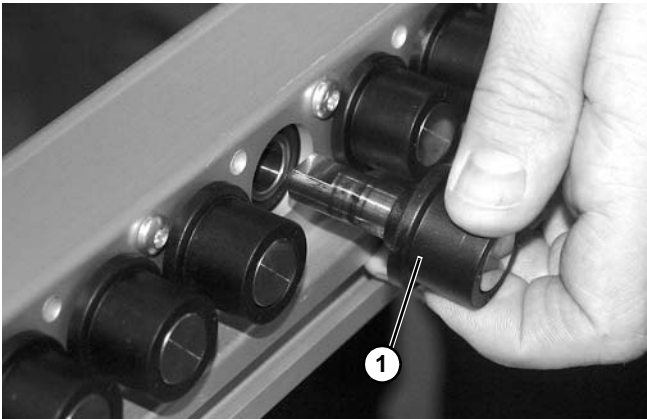

Figure 18
5. Remove roller assembly (Figure 18, item 1) from the conveyor frame.